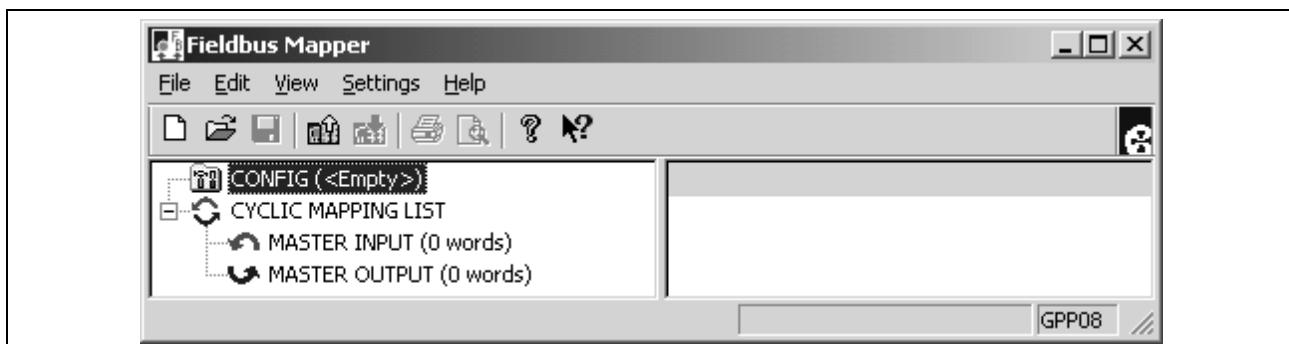

Fig. 6-5: Fieldbus Mapper Main Screen (Blank)
2. Select **Commission⇒Fieldbus Mapper**. The main Fieldbus Mapper screen appears (refer to *Fig. 6-5*).